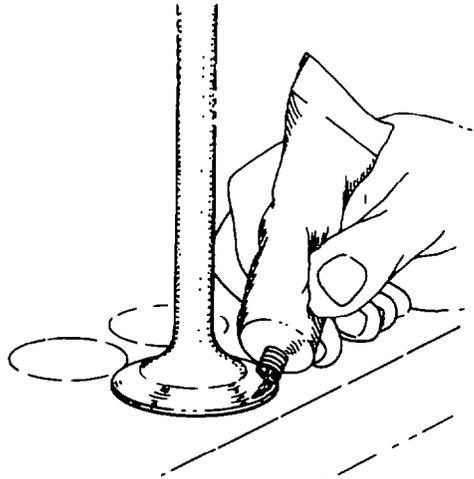

Fig. 42 — Applying Lapping Compound
- d. Remove the valve from the head and apply lapping compound on the seating surface (see fig. 42).